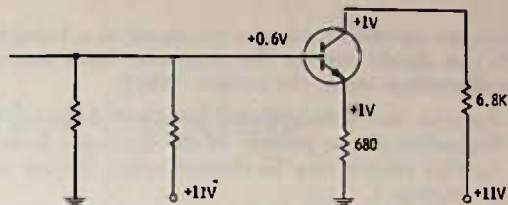

Fig. 9-22. Circuit for Question 9.
9. In Fig. 9-22, looking at the voltage readings, what would you suspect was wrong in the circuit?